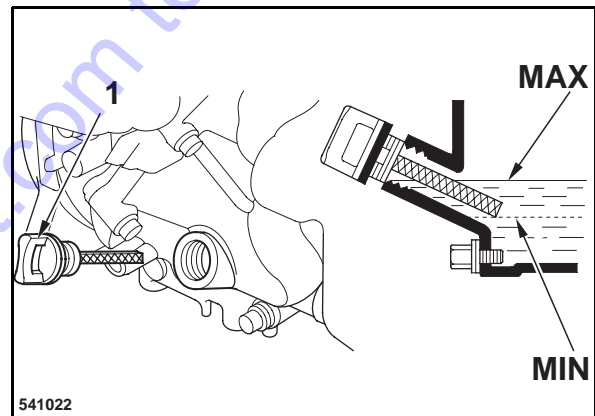

Fig. 30
- Clean the area around the oil dipstick (1) (Fig. 30).